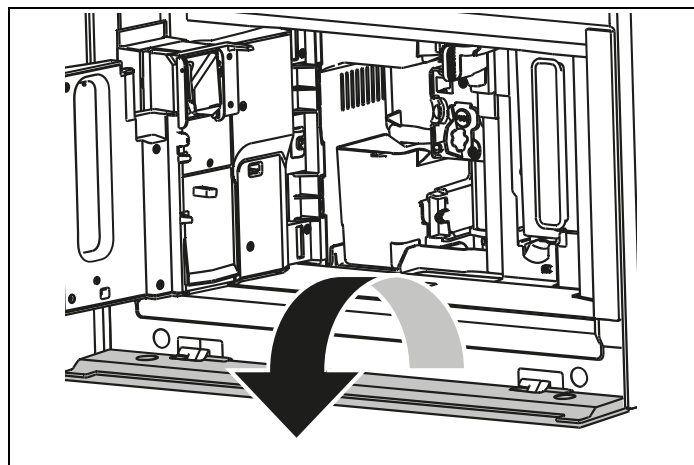
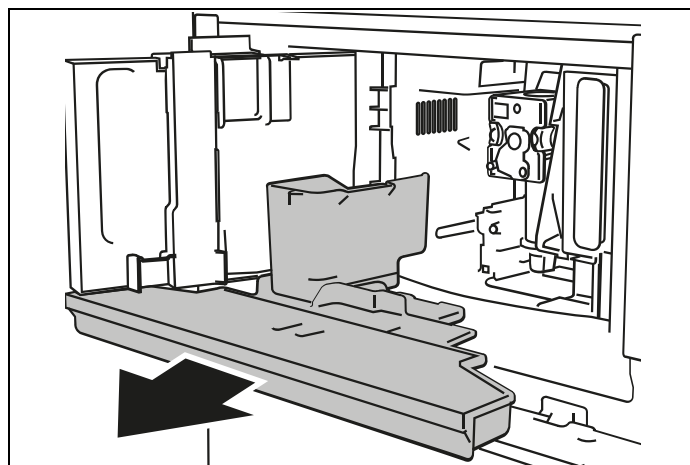

Fig. 42
Fig. 43
1) Open the bottom door by rotating it downwards (Fig. 42).
3) Remove the drip tray (A14) (Fig. 43), empty and clean it.
- Open the door (Fig. 42). Remove the drip tray and coffee grounds container (**A4**) (Fig. 43);
- 3) Remove the drip tray and waste coffee container (Fig. 43).
- **Empty grounds container** (Fig. 43): remove, empty and replace the drip tray **(A14)** and the ground container **(A4)**. Press NEXT;